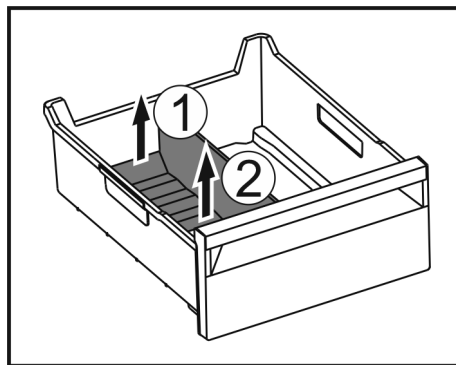

Fig. 231
- Lift the rear part of the ice compartment divider. Fig. 231 (1)
- Remove the ice compartment divider upwards. Fig. 231 (2)